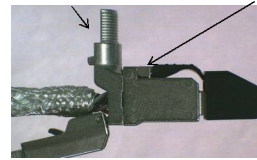
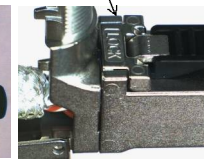

Figure 11b
Figure 12
- 9) With the circuit board / wire carriers / cable fully seated into the RJ45 connector body, select the Connector Orientation per dwg, or installation (reference Fig. 10), and install the rear body (Fig. 11a) until flush with front body (detents snap in). Using the 110700 parallel-jaw pliers, close the Locking latch tab (Fig. 11b) until it snaps shut. Lock should be flush with body (Figs. 11a & 11b).
- 10) Confirm correct connector orientation. If orientation needs to be changed, open the Lock latch using a small screwdriver (Fig. 12). Re-install rear body into the front body, in desired orientation, until flush with front body. Close the Locking latch tab (Fig. 11b) until it snaps shut. Lock should be flush with body (Figs. 11a & 11b).